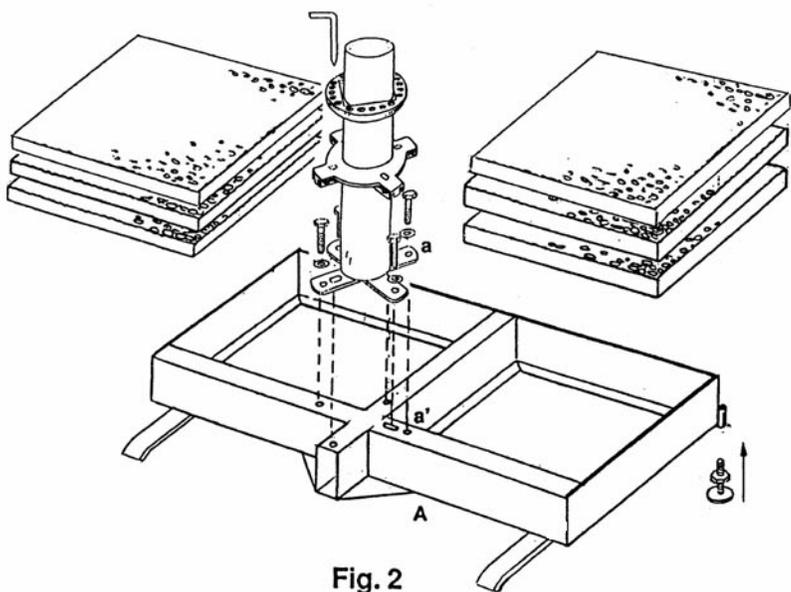

Fig. 2
BASE ASSEMBLY (fig. 2 - fig. 2 a): assemble the base as shown in fig 2 - place the four slabs in the base using the hook (B). The 2 adjustment screws (K) allow leveling of the base (A). **IMPORTANT:** always fix the 2 feet (I) at the base (A).